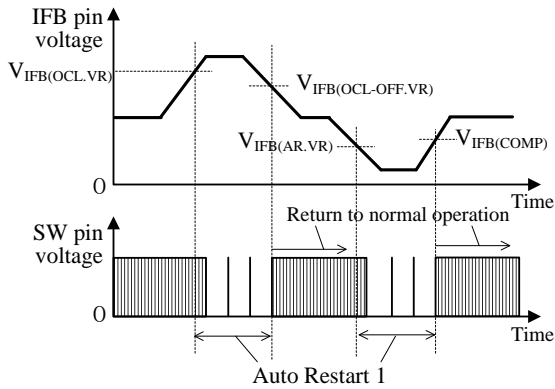
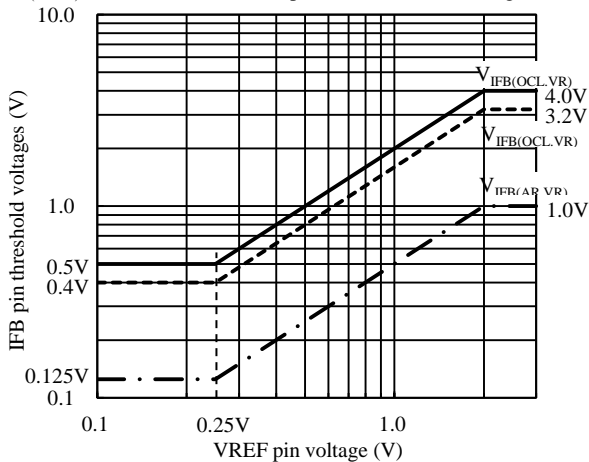

Figure 8-19 IIFB pin threshold voltage and Auto Restart 1 operation
Figure 8-20 VREF pin voltage versus IFB pin threshold voltages
As shown in Figure 8-19, IFB pin has two types of threshold voltage. These threshold voltages depend on the VREF pin voltage, as shown in Figure 8-20.
When the FB pin voltage increase to  $V_{IFB(OCL.VR)}$  in Figure 8-20, or more, the operation of the IC switches to Auto Restart 1. When the fault condition is removed and the IFB pin voltage decreases to  $V_{IFB(OCL-OFF.VR)}$  in Figure 8-20, or less, the IC returns to normal operation automatically.
When the FB pin voltage decrease to  $V_{IFB(AR.VR)}$  in Figure 8-20, or more, the operation of the IC switches to Auto Restart 1. When the fault condition is removed and the IFB pin voltage increases to above  $V_{IFB(OMP)}$ , the IC returns to normal operation automatically.
(2) When IFB pin voltage becomes  $V_{IFB(OCL.VR)}$  or more (see Figure 8-20), the IC switches to Auto Restart 1.
(3) The LED current increases further and when the IFB pin voltage increases to the IFB Pin Overcurrent Protection High Threshold Voltage,  $V_{IFB(OCH)} = 4.0$  V or more, the IC switches to Auto Restart 2.
When the LED\_OUT (+) or the IFB pin is open and the OVP pin voltage increases to the OVP Pin Overvoltage Protection Threshold Voltage,  $V_{OVP} = 3.00$  V, the IC immediately stops switching operation. When the OVP pin voltage decreases to the OVP Pin Overvoltage Protection Release Threshold Voltage,  $V_{OVP(OFF)} = 2.75$  V or the IFB pin voltage decreases to  $V_{IFB(AR.VR)}$  in Figure 8-20, then the IC switches to Auto Restart 1.
When the LED\_OUT (-) and the GND are shorted, and the IFB pin voltage decreases to  $V_{IFB(AR.VR)}$  in Figure 8-20, then the IC switches to Auto Restart 1.
When the output current detection resistor (R15, R61), is shorted, the IFB pin voltage decreases. When the IFB pin voltage decreases to  $V_{IFB(AR.VR)}$  in Figure 8-20, then the IC switches to Auto Restart 1.